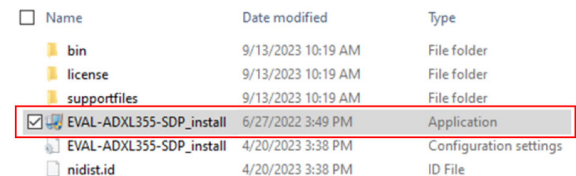

Figure 5. Start Installation
3. Double click on **EVAL-ADXL357-SDP_install** to start the installation process (see Figure 5).